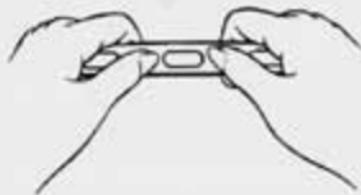

Fig. 14
1. Fold the strap a couple of times to break it off from the middle. (Fig. 14)